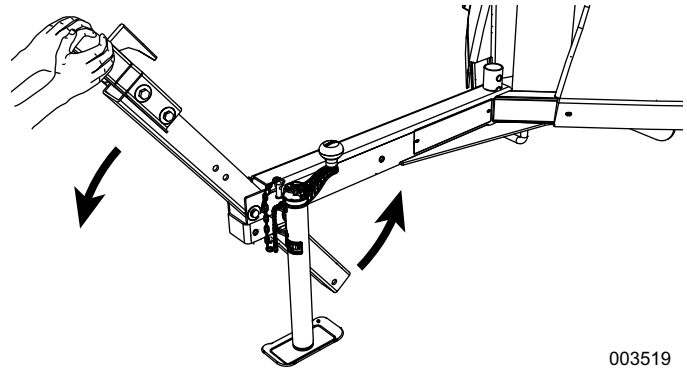

Figure 2-9. Lower Trailer Tongue into Tow Position
6. See Figure 2-9. Using both hands, slowly lower trailer tongue into tow position.